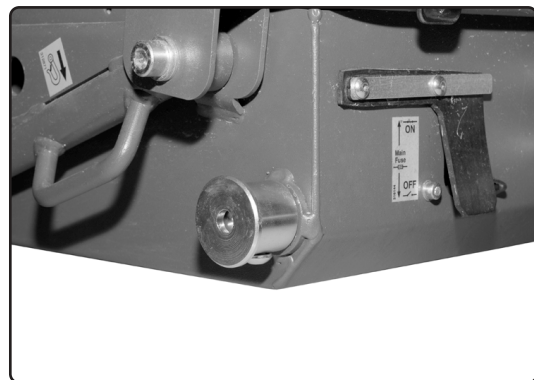

Fig. 2.
2. Mount the plungers on the chassis with M8x16 screws fitted on the underside. Figure 2.